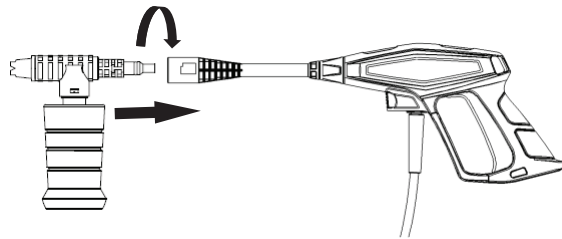

Figure 15
4. Connect the detergent spraying nozzle to the high pressure hose and spray gun assembly. See figure 15.